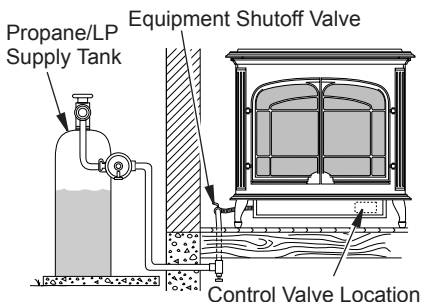

Figure 12 - Checking Gas Joints (Oxford™ Stove Model Shown)
3. Check all joints from gas meter for natural or propane/LP supply to equipment shutoff valve (see Figure 12 or 13, page 13). Apply a noncorrosive leak detection fluid to gas joints. Bubbles forming show a leak.
4. Check all joints from equipment shutoff valve to control valve (see Figure 12 or 13). Apply a noncorrosive leak detection fluid to gas joints. Bubbles forming show a leak.